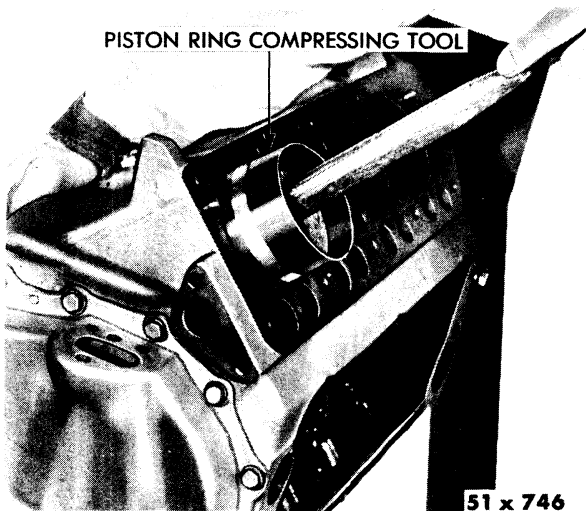

Fig. 122—Installing Connecting Rod, Piston and Rings (Typical)
- (3) Tap the piston down in the cylinder bore, using the handle of a hammer, as shown in Figure 122, and at the same time, guide the connecting rod into position on the crankshaft journal. The marking on the top of the piston must be pointing toward the front of engine. As a double check, the larger chamfer of the connecting rod bore must be installed toward the crankshaft journal fillet.
- (4) Install the bearing caps and nuts. Tighten nuts to 45 foot-pounds torque.